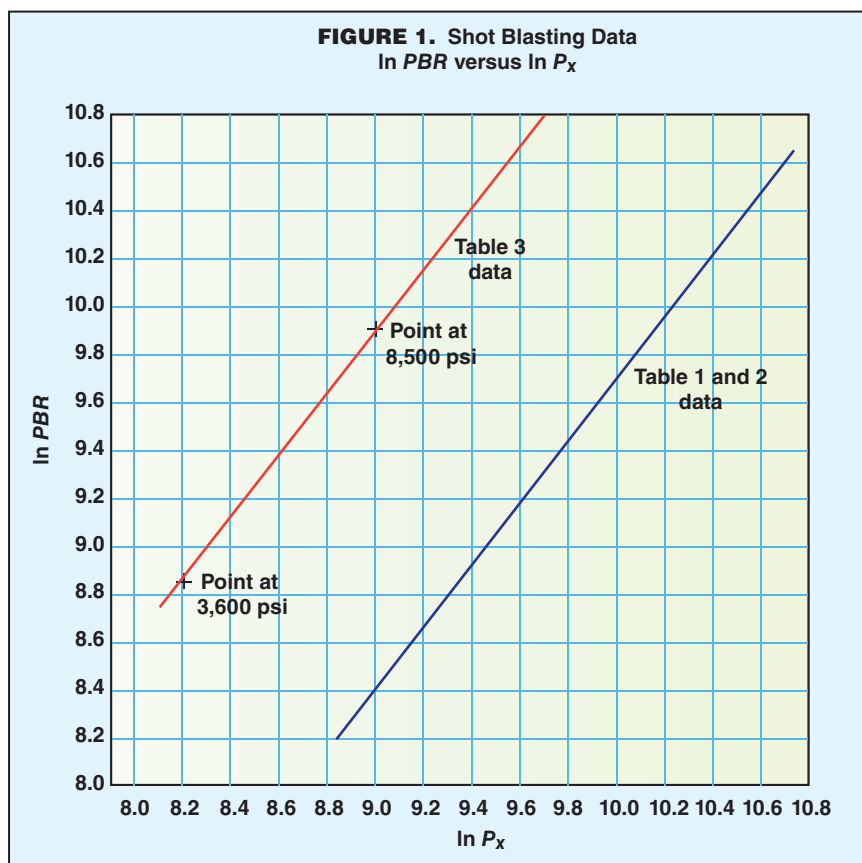

FIGURE 1. The linear relationship of $\ln P_x$ versus $\ln PBR$ is of great practical importance in calculating unknown performance characteristics
FIGURE 1. In a high shear rotor/stator mixer, a rotor turns at high speed within a fixed stator. As the blades pass each opening in the stator, the mixer applies intense shear to the liquid material, which is rapidly accelerated and ejected radially through the stator
ward improving the dispersion of difficult solids. In its simplest form, this mixer consists of a rotor that turns at high speed within a stationary stator (Figure 1). Tolerances are close (0.010–0.015 in. typically), and as the blades of the rotor pass each opening in the stator, they apply intense shear.
Case (1) in accordance with base straight line ln-ln plot of Figure 1
Propellant burn rate (PBR), as determined from these equations, also shows the relationship between burn rate and propellant weight (W_p), velocity at the point of propellant burnout (V_x) and barrel length at the point of burnout (L_x), as determined from an analysis of firearm performance for a number of different firearms having known values of propellant weight, bullet weight (W_b), muzzle velocity (V_m) and barrel dimensions (see Tables 1 and 2). These data have shown that a straight line relationship exists when the natural logarithm of pressure at propellant burnout (P_x) is plotted as a function of the natural logarithm of the burn rate (Figure 1). The same relationship has been demonstrated by other investigators [3]. This would indicate that the propellants used for all of the cases investigated had comparable burn rates.